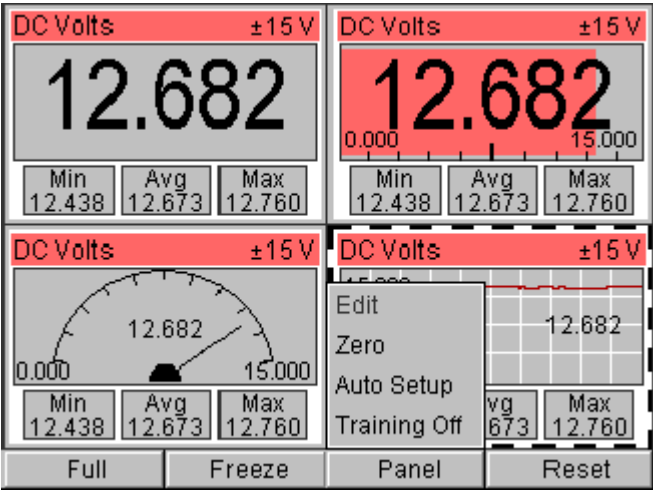

Figure 6.7: DMM Screen -All Panels Displayed
NOTE: Each displayed panel shows the measurement and range at the top, the reading in the center, and the reading's minimum, average, and maximum at the bottom. If a panel is selected, you can repeatedly press the ENTER key to change the panel's display type from Digital to Bar to Dial to Strip (see Figure 6.7 on page 38).
- Return to step 4 and repeat steps 4 through 7 until all the panels are set up as you want them. Figure 6.7 shows all four panels set up.